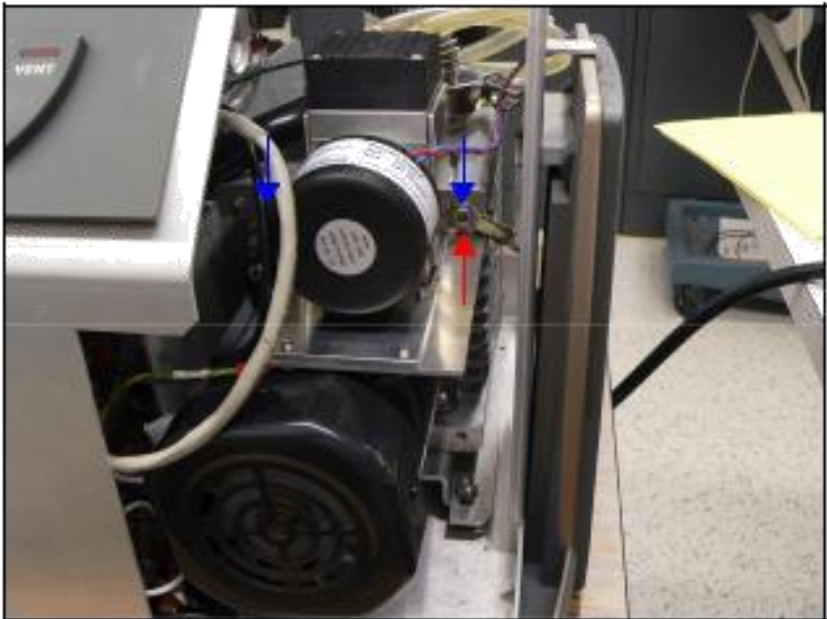

Figure 13: Ground Connection
5. Remove the ground connection to the system body (red arrow in Figure 13: Ground Connection).
6. Disconnect the two M4 screws mounting the plate to the scroll pump assembly (blue arrow in Figure 13: Ground Connection).